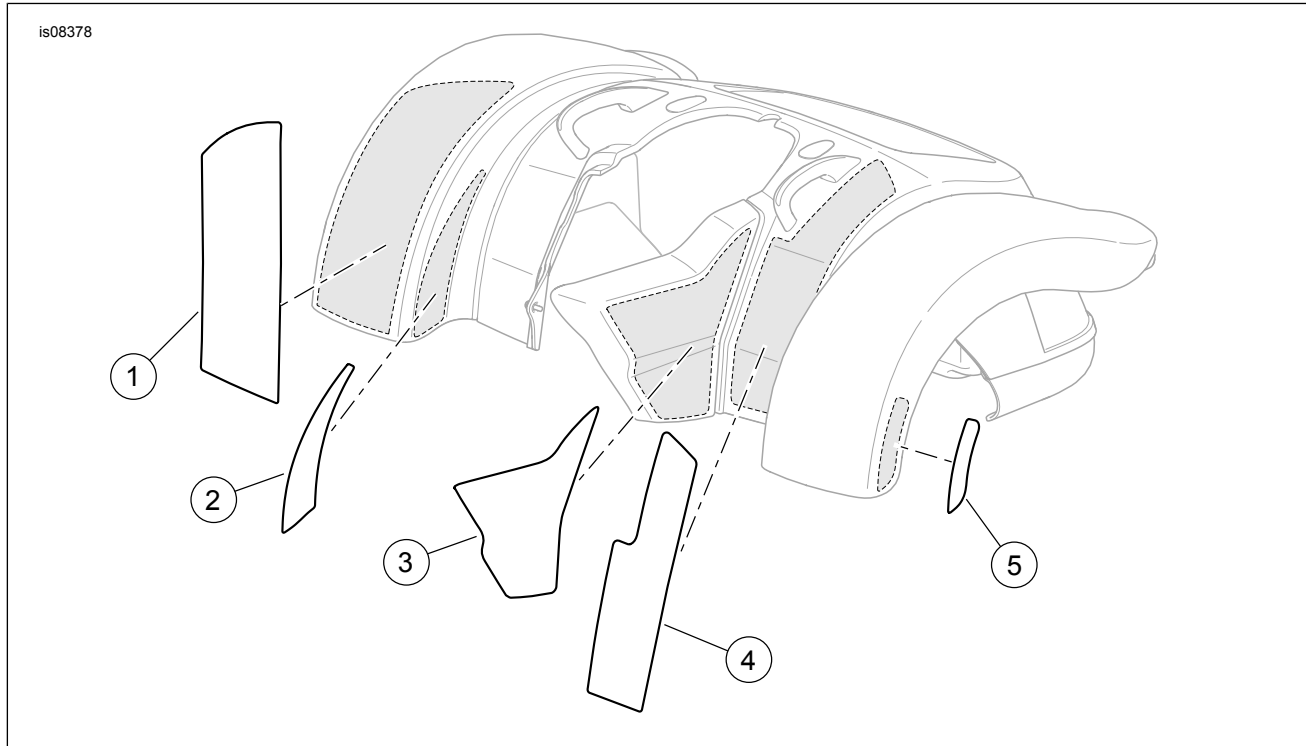

Figure 1. Service Parts: Paint Guard Kit
See Figure 1 and Table 1.
2. See Figure 1. Wash all mounting areas thoroughly. Allow to dry completely.
- See Figure 1. Identify each paint guard piece and its mounting location before proceeding. The paint guard pieces are side-specific.
2. See Figure 1. Align the paint guard with the top edge of the saddlebag.